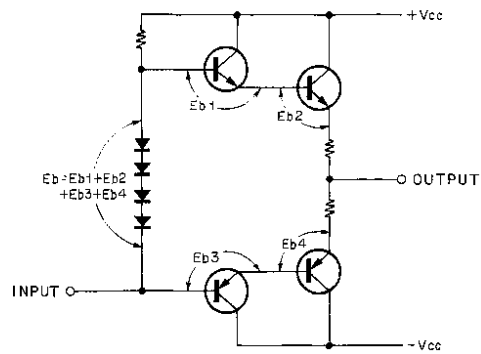
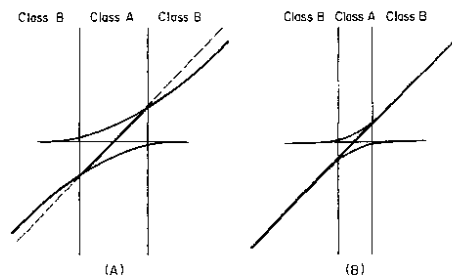
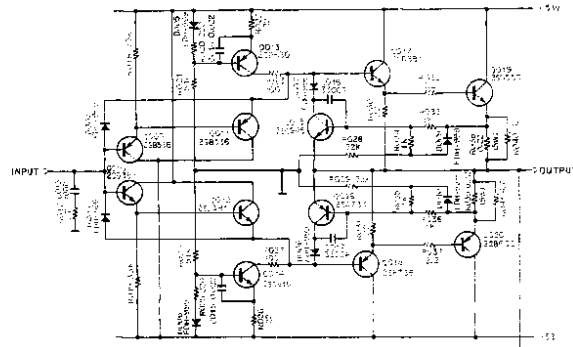
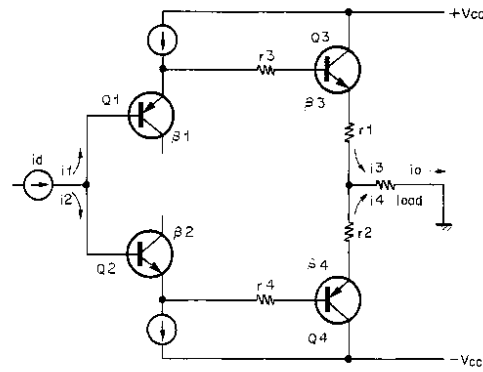

Fig. 2.4
Fig. 2.5
Fig. 2.3
Fig. 2.6
Especially for a class B push-pull amplifier, distortion cannot be reduced unless the positive and negative signal amplifiers are well balanced. The amplifier in the 620, however, is best balanced thanks to the vertically and horizontally symmetric configuration as shown in Fig. 2.3. This circuit allows distortion of only 0.1% at 1KHz 100 watts output even without NFB. This degree of distortion is low enough to make the amplifier used as a high-fidelity unit even if it is given no NFB.
Fig. 2.4 shows that a change in current flowing across the diode varies the terminal voltage and that E_b changes with signal current. These changes result in the generation of distortion. It is a matter of course that signal current flowing across the diode will produce distortion. See Fig. 2.3. Transistors Q009, Q011, Q010 and Q012 that generate bias voltage form an emitter-follower circuit of class A operation. Thus this circuit does not induce distorted signals.
For an ordinary class B amplifier, crossover distortion is reduced by increasing idling current thus overlapping the operating ranges of the positive and negative transistors. The overlap portion acts as a class A amplifier. Generally, the degree of amplification decreases where a change takes place from class A to B and no linear curve is obtained as shown in Fig. 2.5 (A). However, if the circuit shown in Fig. 2.3 is current-driven, a linear curve can be obtained at the point of change from class A to B as shown in Fig. 2.5 (B).
Fig. 2.6 illustrates a simplified version of the circuit shown in Fig. 2.3.
Since the direct-coupled two-stage emitter-followers can be regarded to be one emitter-follower having greater current amplification, the Q009-Q011, Q010-Q012, Q017-Q019, and Q018-Q020 will be designated respectively to be Q1, Q2, Q3 and Q4 as shown in Fig. 2.6.